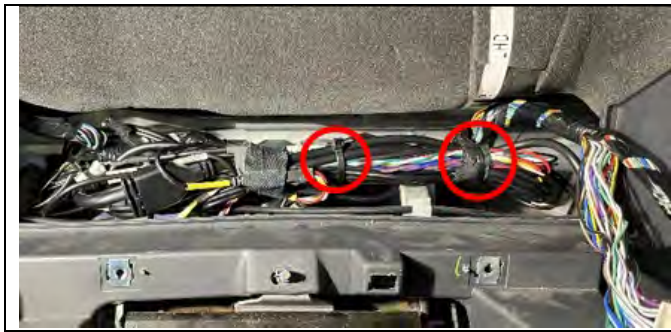

Figure 53
57. Cut the two (2) zip ties that are securing the Mobileye System harnesses behind the meter cluster. (See Figure 53.)